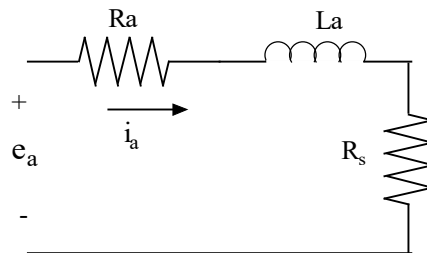

Figure 2: RL circuit
6. Compute the voltage drop across R_s and find the time constant for the R-L circuit in Figure 2.